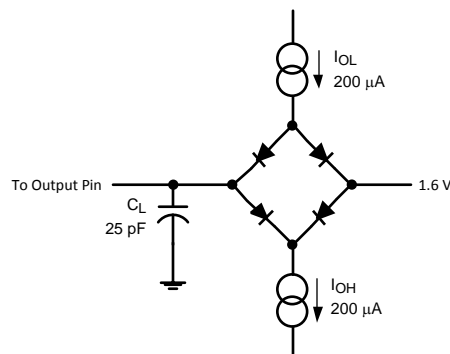

Figure 1. Timing Test Circuit
- (1) Data sheet min/max specification limits are specified by design, test, or statistical analysis.
- (2) Measured with the timing test circuit shown in Figure 1 and defined as the time taken by the output signal to cross 1.0V .
- (3) Measured with the timing test circuit shown in Figure 1 and defined as the time taken by the output signal to cross 1.0V or 2.0V .
- (4) t_{DIS} is derived from the time taken by the outputs to change by 0.5V with the timing test circuit shown in Figure 1. The measured number is then adjusted to remove the effects of charging or discharging the output capacitance. This means that t_{DIS} is the true bus relinquish time, independent of the bus loading.